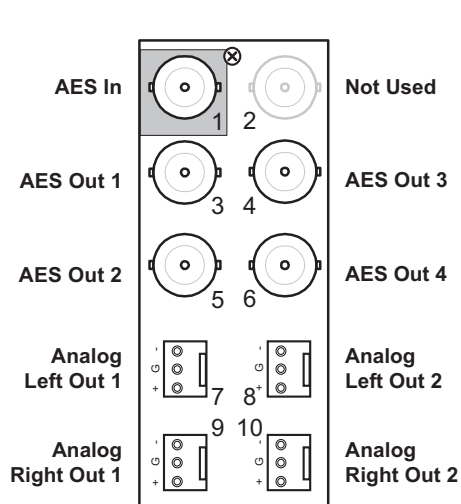

Figure 2.2 Cable Connections for the 8310AR-036 and 8320AR-036 Rear Modules
- **8310AR-036** Rear Module — Each card occupies one slot and provides one AES input, four AES outputs, and four analog outputs. (**Figure 2.2**)
- **8320AR-036** Full Rear Module — Each card occupies one slot and provides one AES input, four AES outputs, and four analog outputs. (**Figure 2.2**) Ensure that the DAC-8416 card is installed in an even slot number.